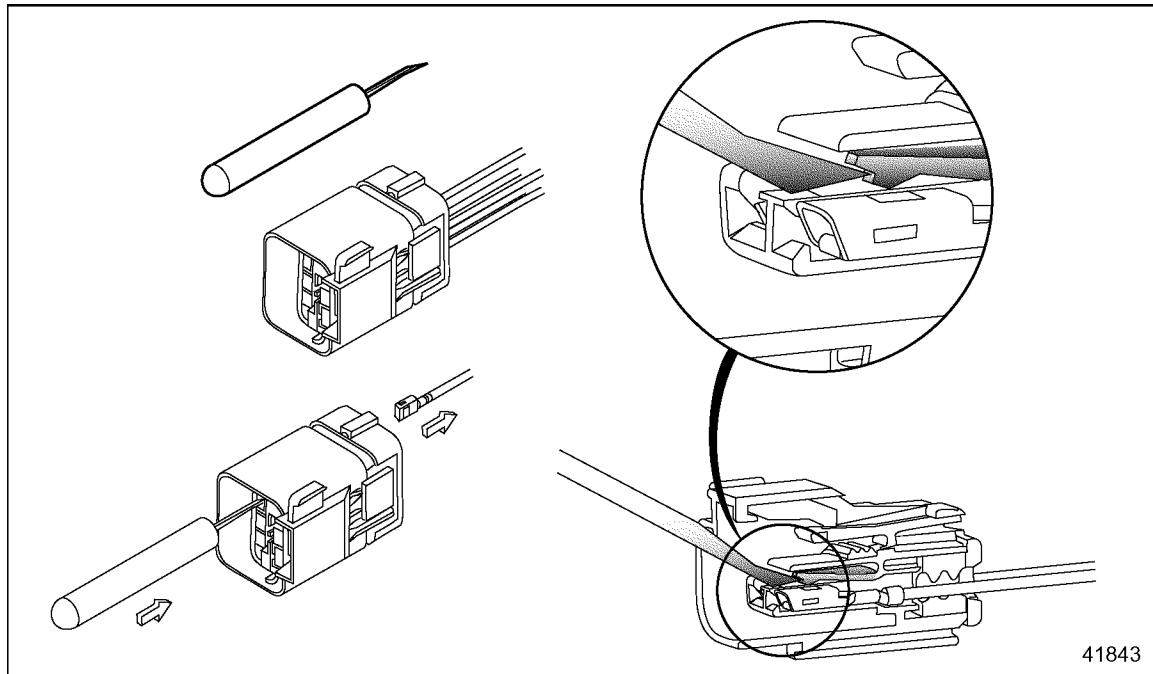

Figure 16-40 Pressing the Locking Tang
2. Using a FCI APEX repair tool (P/N: 54900002) or a #2 jeweler's screwdriver, press back the terminal locking tang (see Figure 16-40).